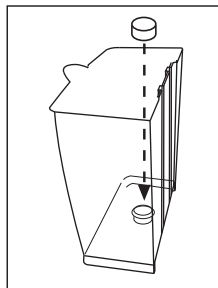

Fig. 17
- Fit the adapter into the tank as far as it will go (**Fig.17**)